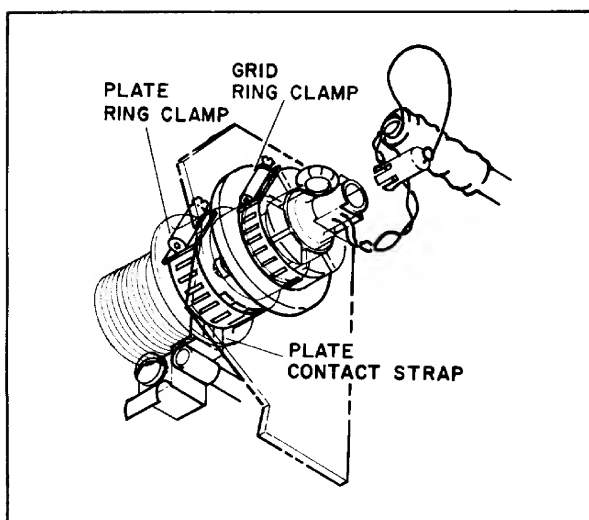

Figure 5-7. 2C39A Removal
- b. Referring to Figure 5-7, loosen the plate and grid ring clamps.